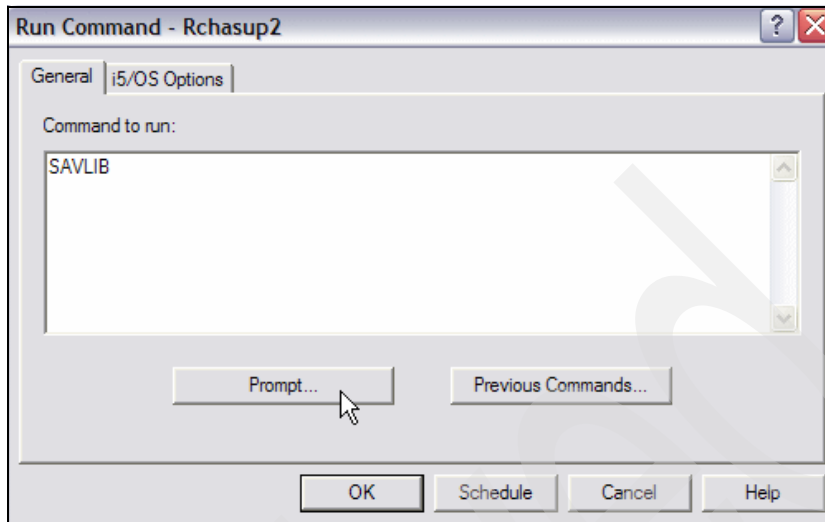

Figure 3-27 Saving library through Navigator
2. Type SAVLIB against Command to run, and click **Prompt** to enter the parameters, as shown in Figure 3-27 on page 63.